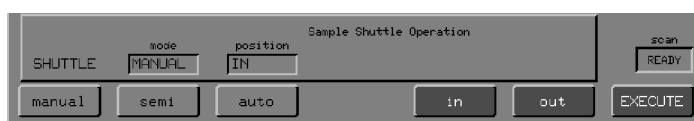

Figure 2-29 The Shuttle Command Line and Soft Keys
*The command line and soft keys in Figure 2-29 are displayed. The three soft keys on the left set the shuttle mode. **in** and **out** move the shuttle.*